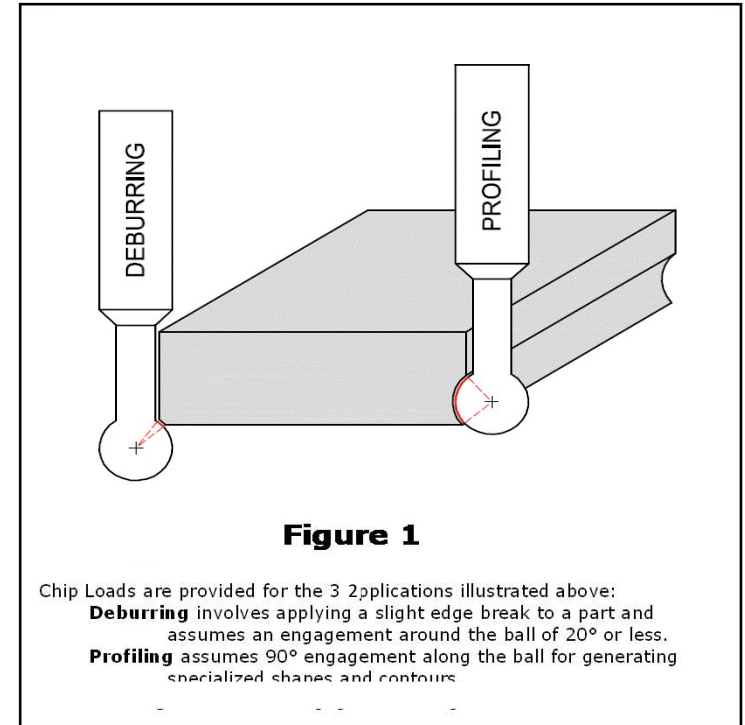

Figure 1
1. Determine the correct SFM and Base Chip Load (IPT) for the cutter, material and application (see application descriptions Figure 1.)
1. Using Figure 1 (upper right), determine the type of application you will be performing.